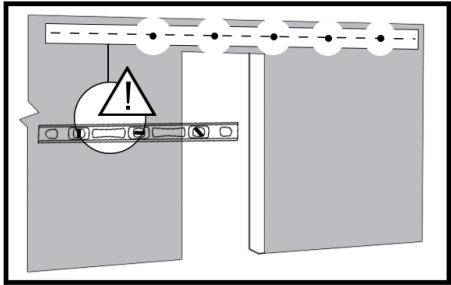

FIGURE 14
- Using a 7/32" (5.6mm) diameter drill bit, drill pilot holes for track mounting lag bolts at the marked locations from step 7.3 on the board (see FIGURE 14).